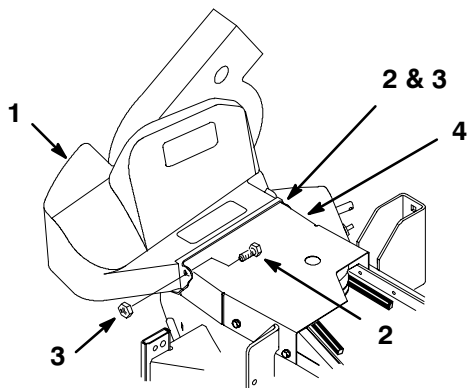

Figure 14
3. Mount the blower belt cover using (2) 1/4 x 5/8" (16 mm) bolts and (2) 1/4" locknuts (Fig. 14). Tighten the locknuts slightly so light drag is felt on the belt cover when it is tilted upward. The cover must close freely when assembled.